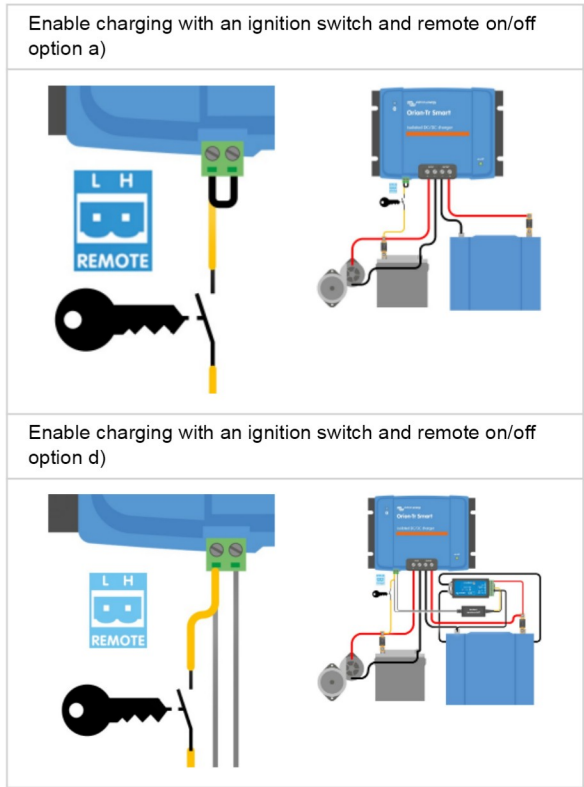

Figure 4: Engine shutdown detection override connection diagram
**i** This function does not override the remote on/off function. Remote connection a), b) or d), as shown in Figure 3 must be configured in combination with engine shutdown detection override. See examples in figure 4.
**i** If the ignition switch in figure 4 is switched off, the charger will return to “engine shutdown detection” mode, it will not turn off the charger.